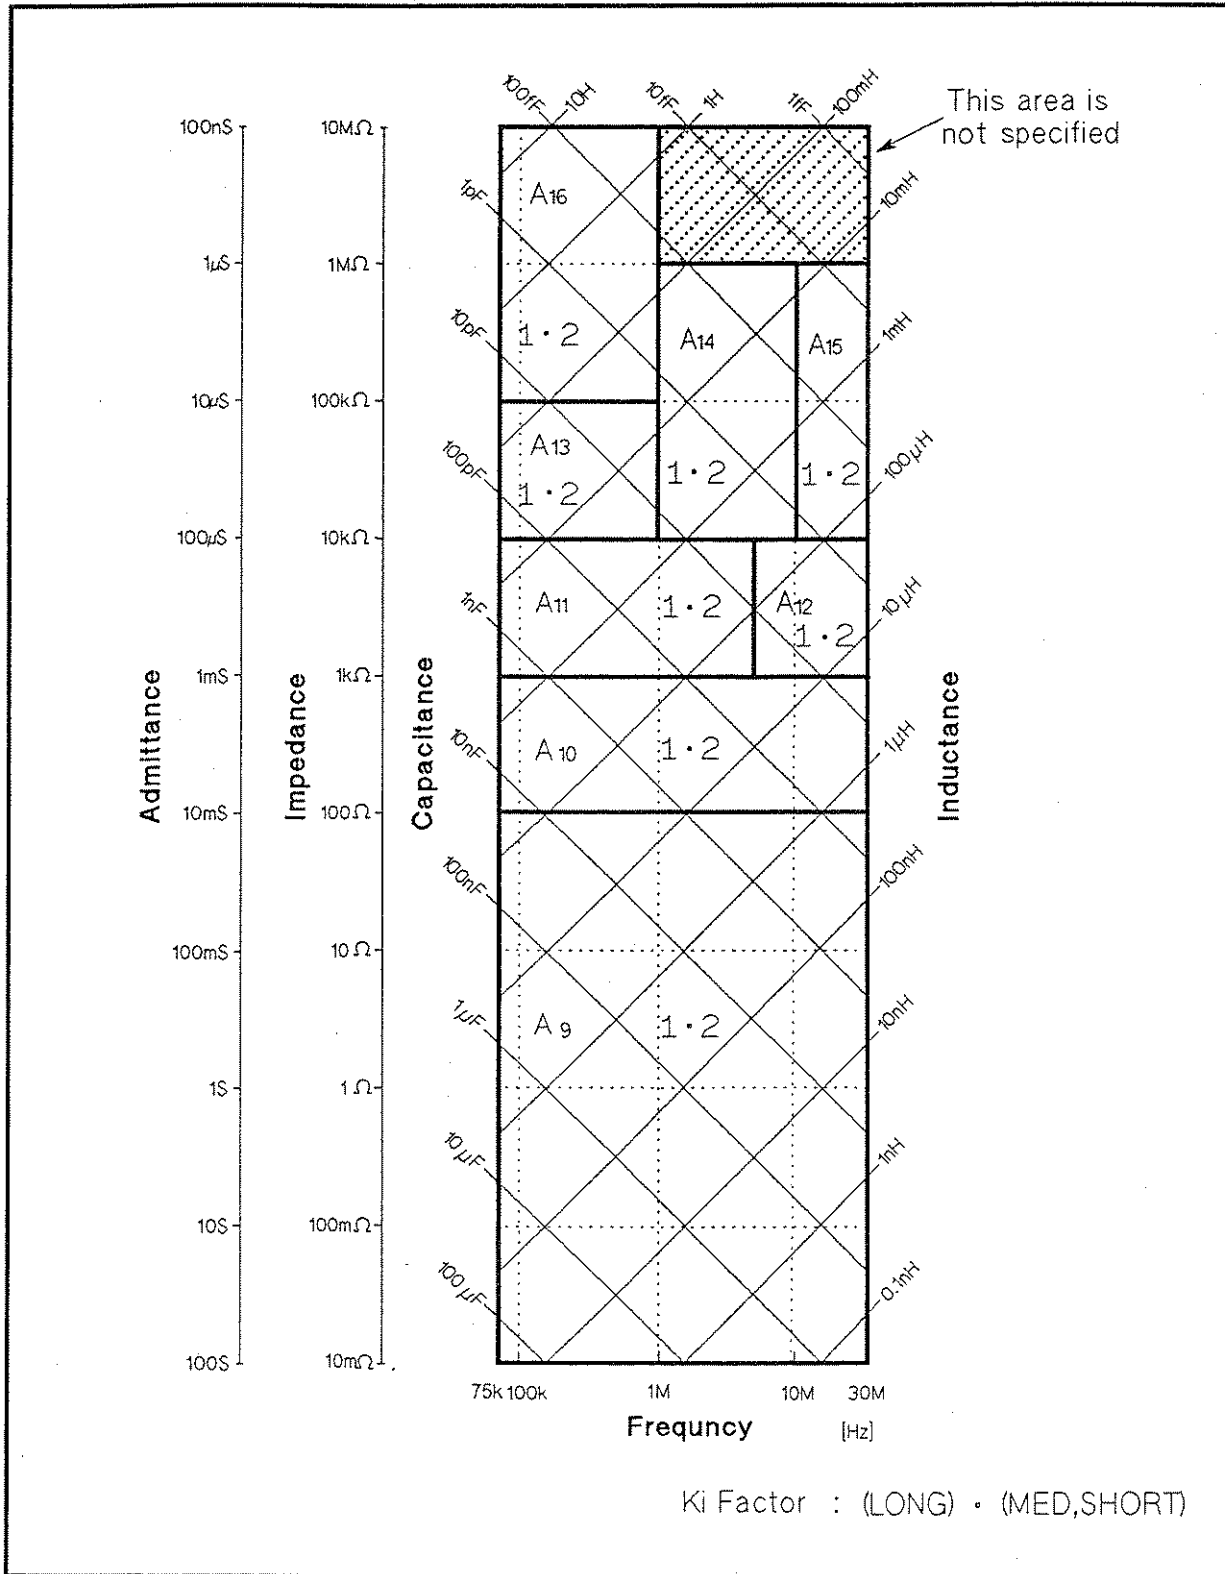

Figure 1-5.
A_n : Basic accuracy equation given from the A_1 to A_{16} shown in Table 1-1. The applicable frequency range and impedance range of equations, A_1 to A_{16} , are shown in Figure 1-4 or Figure 1-5. (Refer to "Basic Accuracy Equations".)
1. Determine A_n equation from Figure 1-4 or Figure 1-5. In both charts, boundary line belongs to the better accuracy area.
When the oscillator level $> 1V_{rms}$, determine A_n to be applied and value of K_i from the Figure 1-5.
3. Choose an accuracy chart from Figure 1-4 and Figure 1-5. The oscillator level is 1 V_{rms} , then Figure 1-4 is chosen for this measurement.